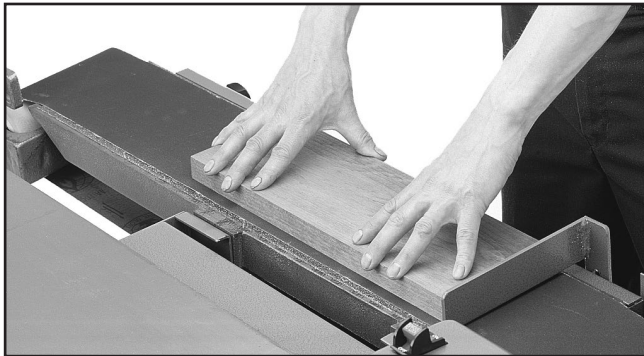

Figure 40. Example of face sanding method.
4. While supporting the workpiece against the back stop and keeping your fingers away from the belt, slowly feed the workpiece into the belt, as shown in **Figure 40**.